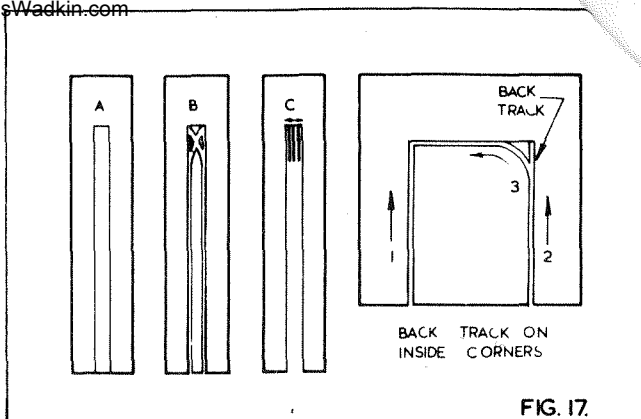

FIG.17.
- (c) **BACKTRACK ON CORNERS** See Fig. 17. Very narrow grooves must be nibbled as shown at A, B, C. On other inside corners, cut to the corner and then backtrack to lead the blade over to second line.